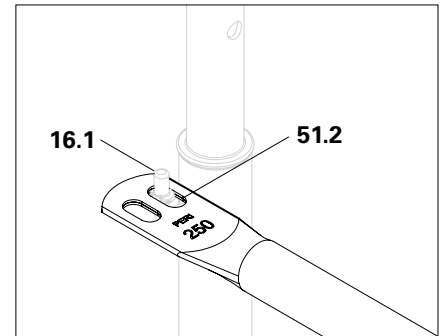

Fig. A3.03b
2. Align the slot (**51.2**) with the guardrail hook (**16.1**) and insert. (Fig. A3.03b)